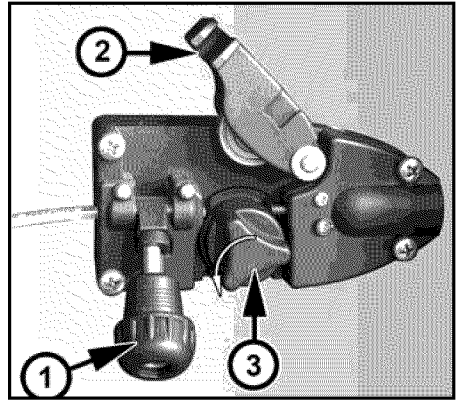
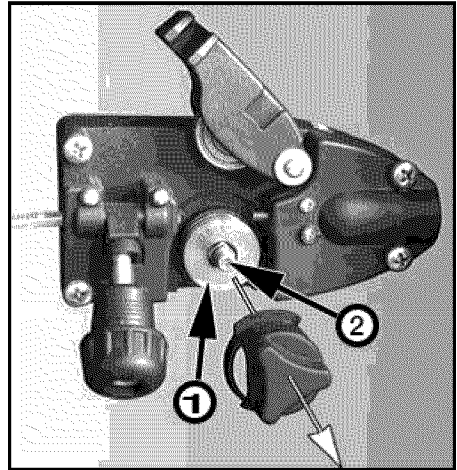

Fig. 2a
Fig. 2b
3. Release the drive tension by loosening and unlatching the Drive Tension Adjusting Knob (Fig. 2a, 1) from the Drive Tension Arm (Fig. 2a, 2). Lift up the Drive Tension Arm to expose the Drive Roller (Fig. 2a, 3).
5. Rotate the Drive Roller Cap (Fig. 2a, 3) counterclockwise and remove it from the Drive Roller (Fig. 2b, 1).
Roller shaft. (Fig. 2b, 2)